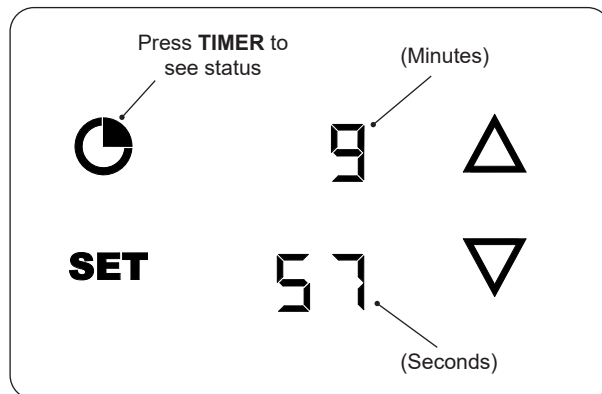

Fig. 36-2 Check timer status
- To check the timer status, press the **TIMER** button and the display will show the live countdown (for 5 seconds then, return to the default screen). See Fig. 36-2.
- The upper display indicates minutes and the lower display indicates seconds (see Fig. 36-2).